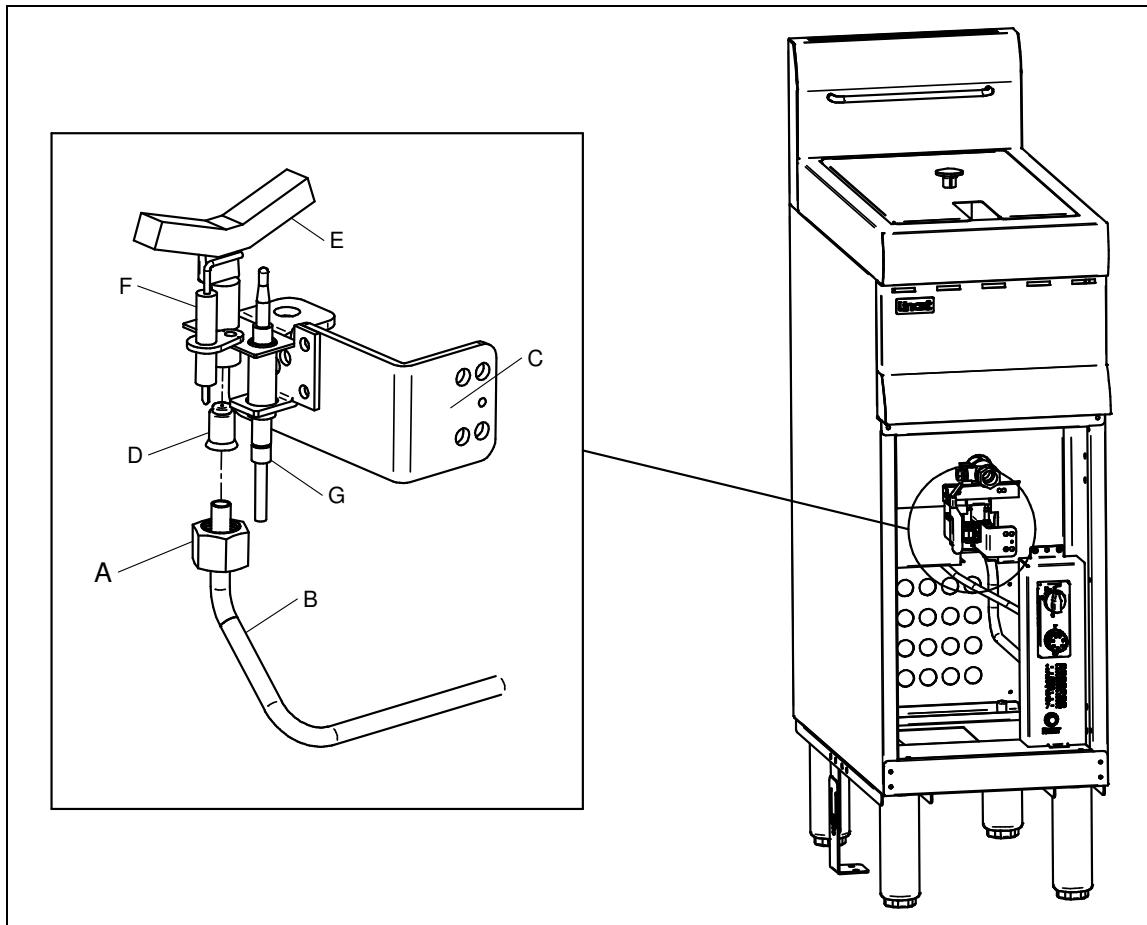

Fig 4
Ensure the control knob (Fig 3 B) is in the 'Off' position (Fig 3 C). Push in and turn anticlockwise to the pilot position (Fig 4 E) during which the piezo igniter will click to ignite the pilot.
Remove the blanking nut (Fig 4 J) from the front of the appliance. Fit the drain tube. Place a suitable receptacle under the pipe outlet. Lift the drain valve handle lock (Fig 4 K) to allow operation of the drain valve, then move the drain valve handle forwards and upwards to drain. After draining, close the valve, remove the pipe and refit the blanking nut. Excess oil remaining in the base of the tank can be removed with kitchen paper.
Access to the ignition system components most liable to need replacing is best obtained by removing the complete ignition assembly from the fryer. Referring to Fig 4, this may be achieved by undoing the pilot nut (A) from the pilot pipe(B) at the pilot end. Ensure that the pilot jet (D) is not dropped. Next, release the holding bolts from the bracket (C) and lower the assembly clear of the unit. Replace the specific part as detailed below, and reassemble in the reverse order.